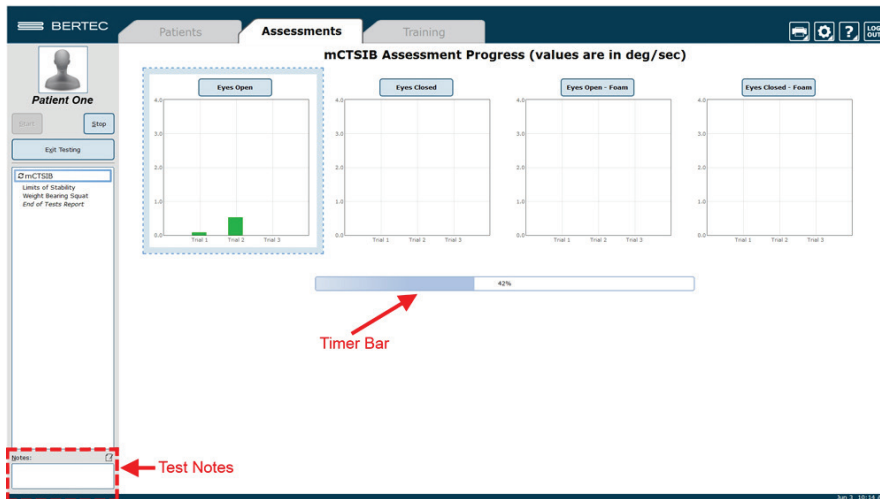

Figure 19: Example Clinician Screen During Assessment
5. Perform the assessments as directed on the computer screen. At any point during an assessment, the clinician may input notes by clicking in the Test Notes area, located on the bottom left corner of the screen. Figure 19 shows this screen.